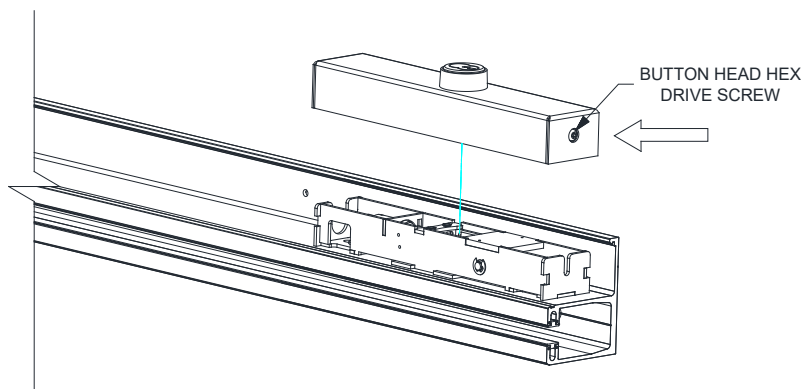

Figure 6
6. The cover can now be reinstated. Push the cover onto the Auto-lock so that it sits flat on the guide. Tighten the button head hex drive screw to secure the cover. See **Figure 6**